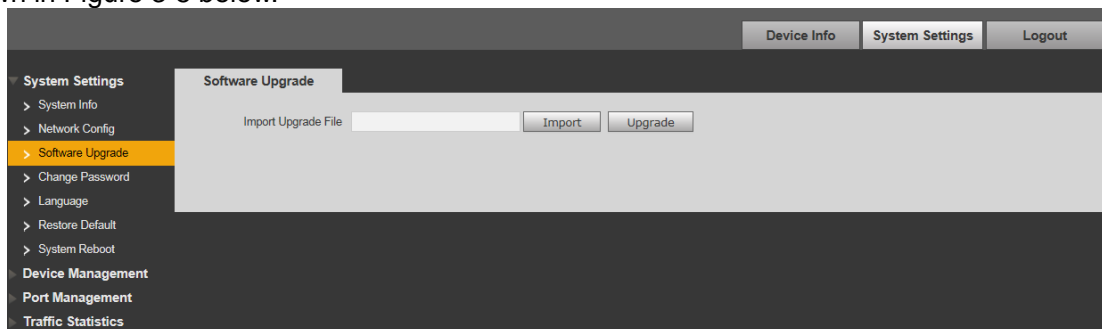

Figure 3-5
Step 1 Select “System Settings > Software Upgrade”, the system will display the interface which is shown in Figure 3-5 below.